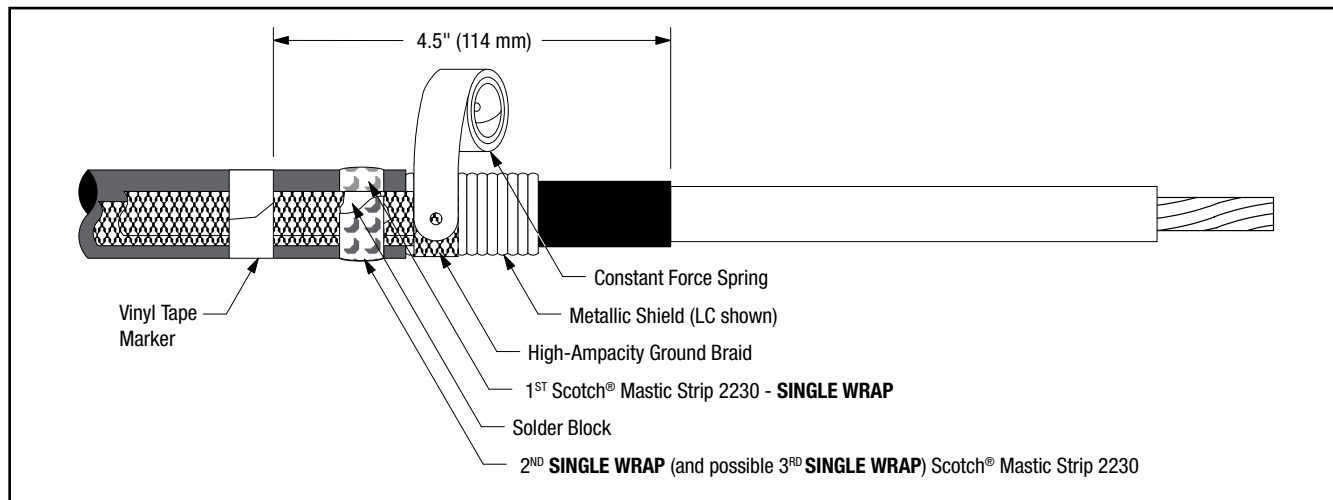

Figure 6
- 4.3 Wrap the high-amp ground braid around the metallic cable shield and secure in place with constant force spring. Cinch (tighten) the spring after wrapping the final turn. Position the high-amp ground braid tail (with solder block over mastic strip) over the cable jacket and parallel to the first ground braid tail (Figure 6).
- 4.4 Select Scotch® Mastic Strip 2230 from kit and remove white release liners. Apply a **SINGLE WRAP** of mastic over solder block on high-amp ground braid and previously applied mastic. If high-amp ground braids overlap on cable jacket be sure to apply mastic between the solder blocks of the high-amp ground braids. Secure ground braid to cable jacket **4.5" (114 mm) from cable semi-con edge using vinyl tape. Apply tape directly over previously applied marker tape (Figure 6).**